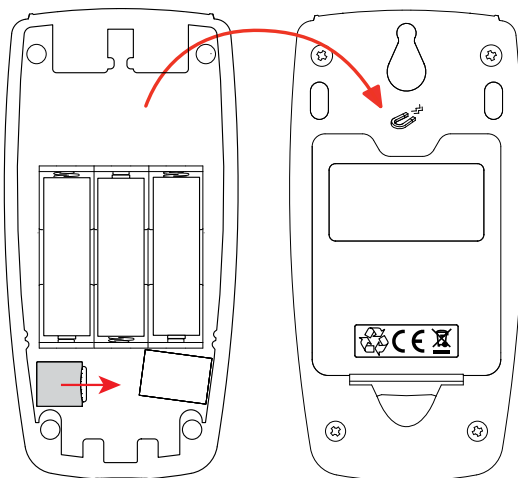

Figure 42
3. Remove the bottom from the instrument and lay it aside (see Figure 42).
4. Push the SD card slot to the right to unlock it (see Figure 42).